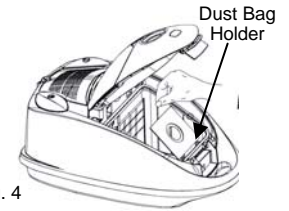

Fig. 4
3. Holding the HEPA dust bag in your hand, slide it firmly between the slots in the bag holder. (Fig 4)